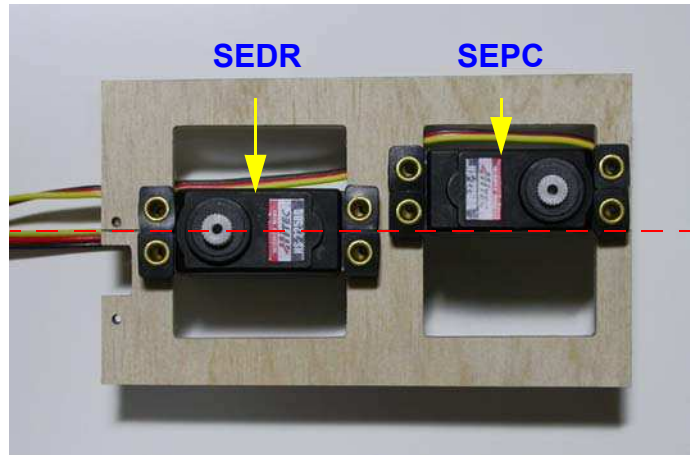

Fig.85: Position of the servos on the frame.
- mount the two servos on the frame as shown in figure 85: the servo “SEDR” must be positioned exactly on the central line, while the servo “SEPC” must be positioned with one side on the central line;